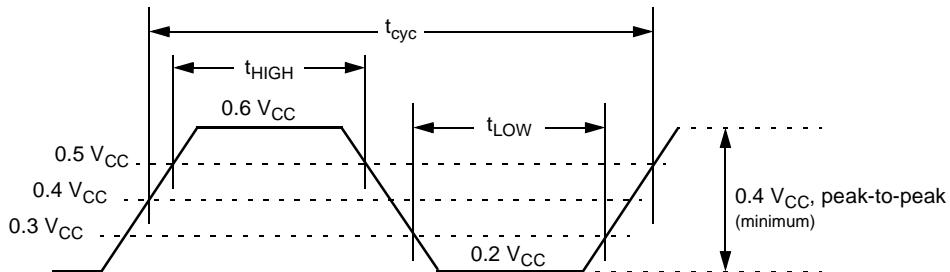

Figure 5-3. 3.3V PCICLK Waveform
8. Rise and fall times are specified in terms of the edge rate measured in V/ns. This slew rate must be met across the minimum peak-to-peak portion of the clock waveform as shown in Figure 5-3.